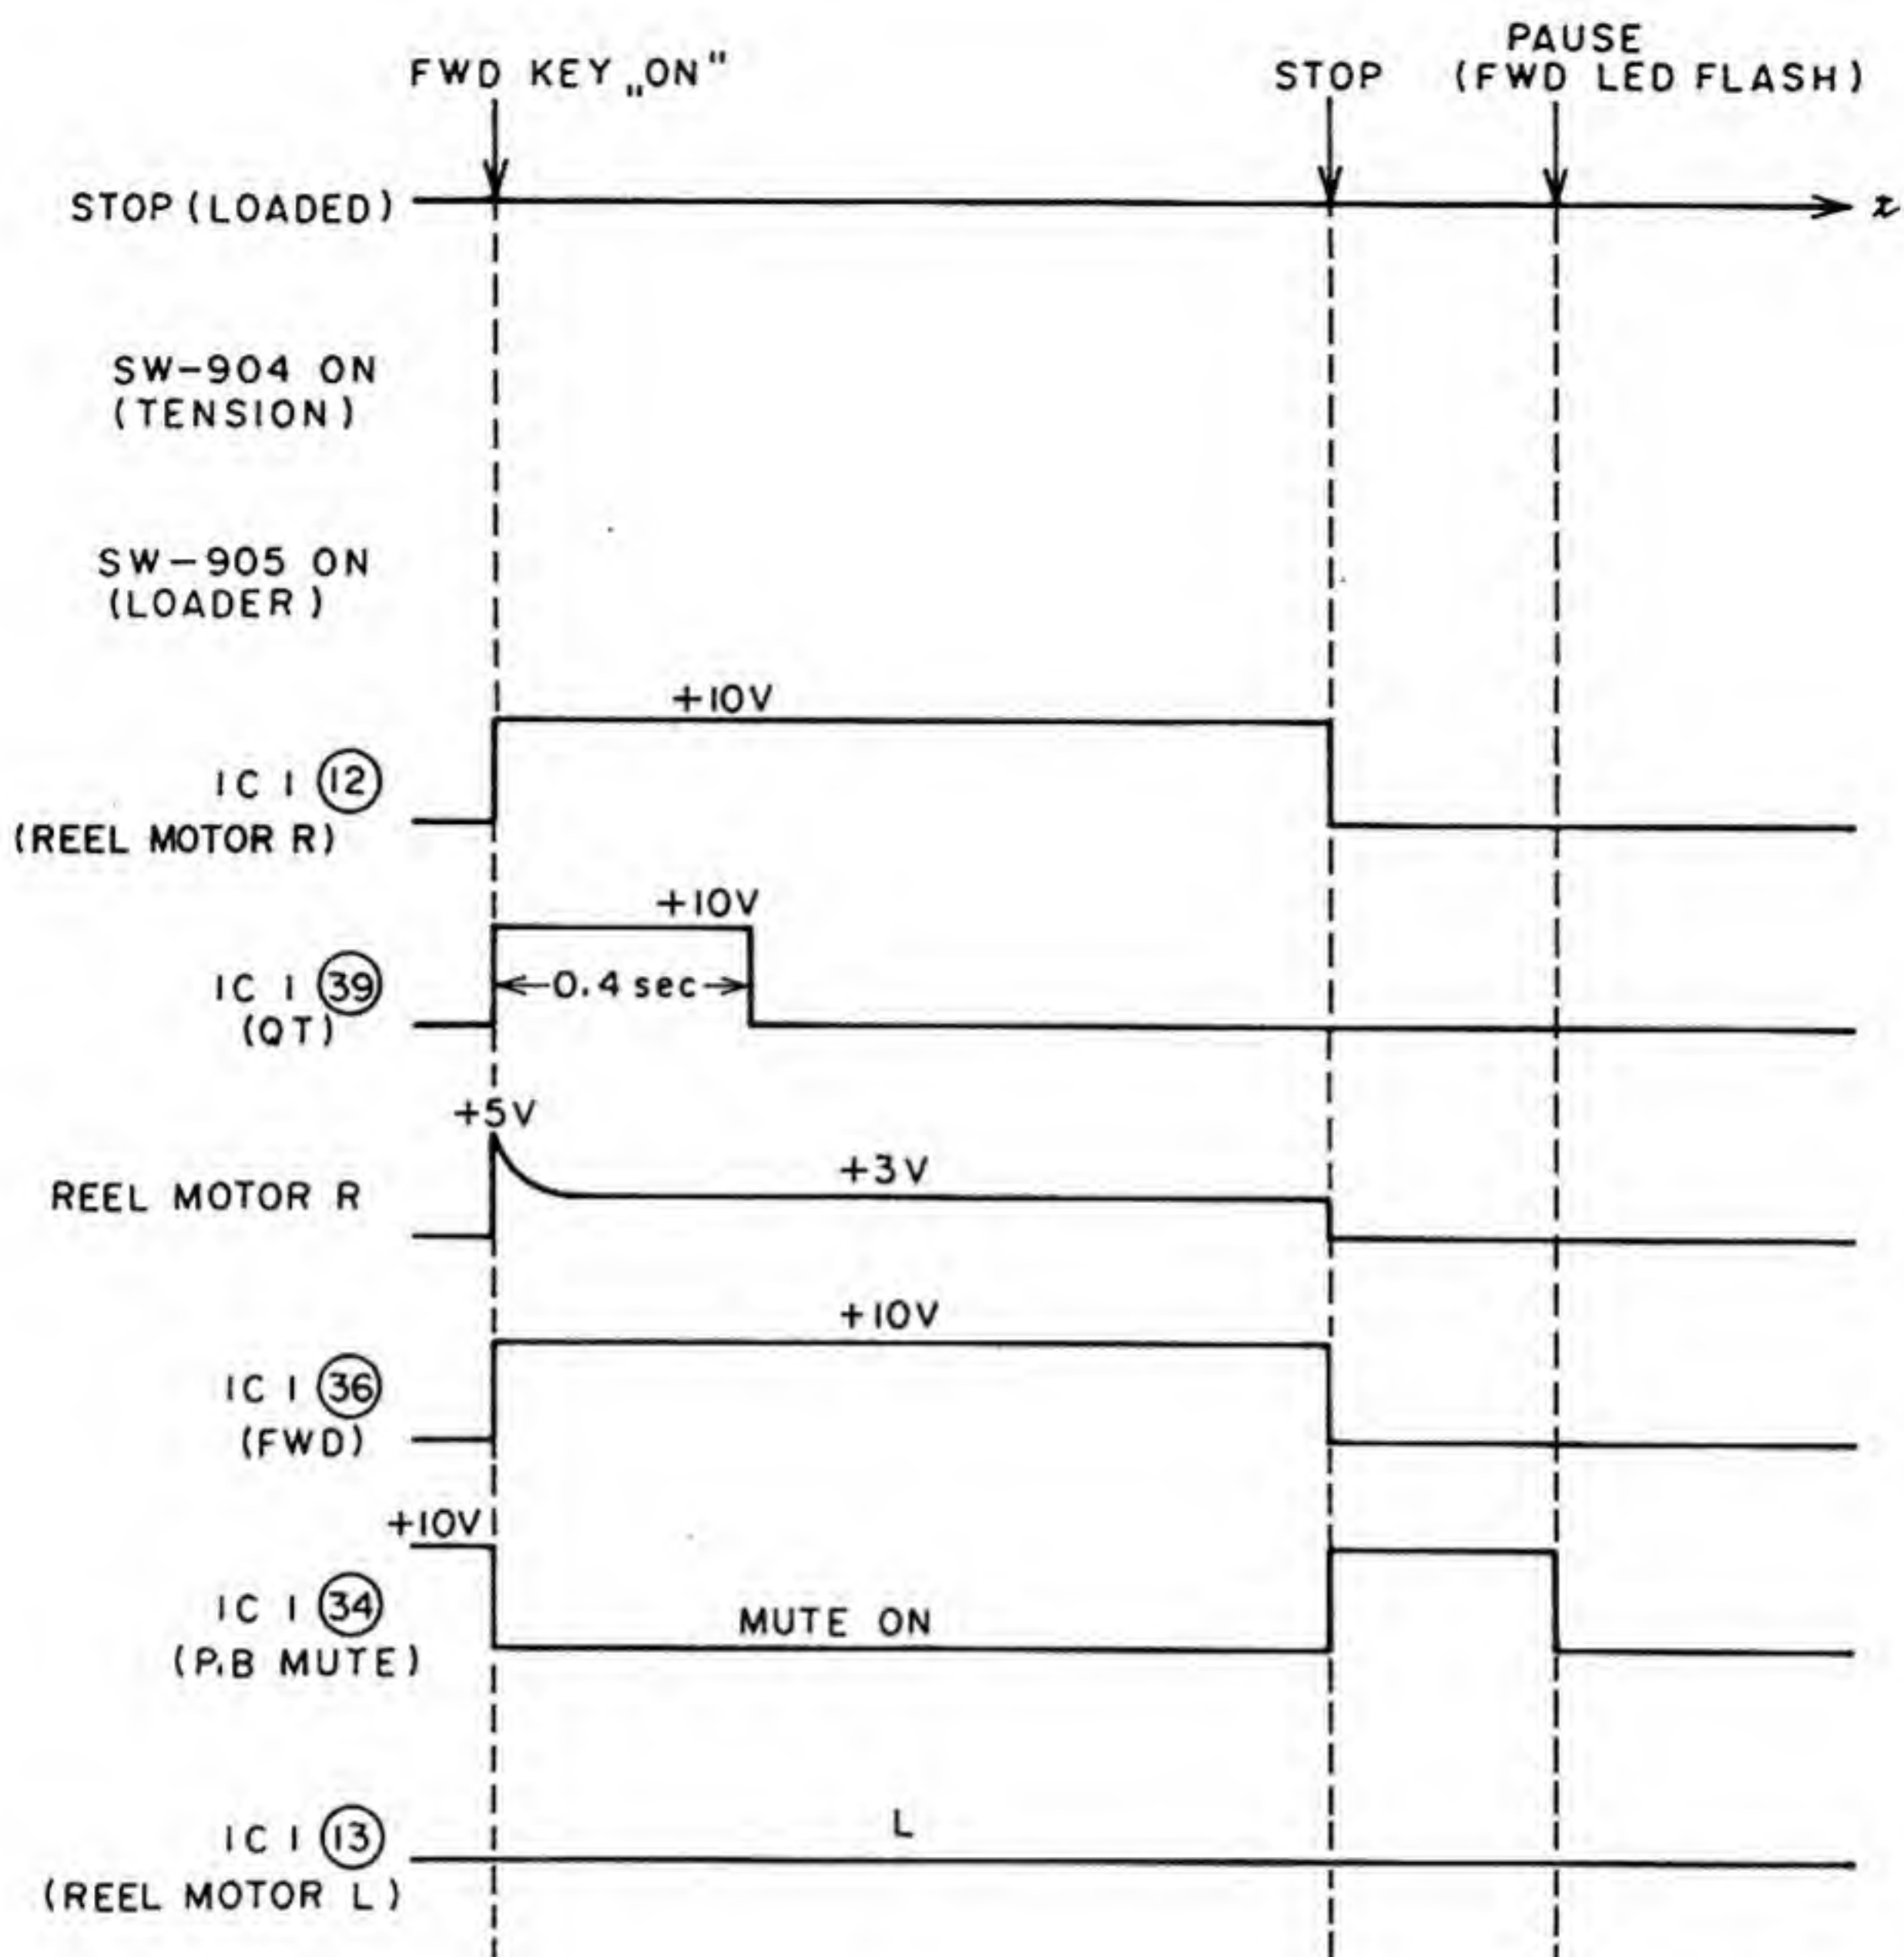

Fig. 10
4) FWD Mode After Loading (Tape Loaded) (Refer to Fig. 10)